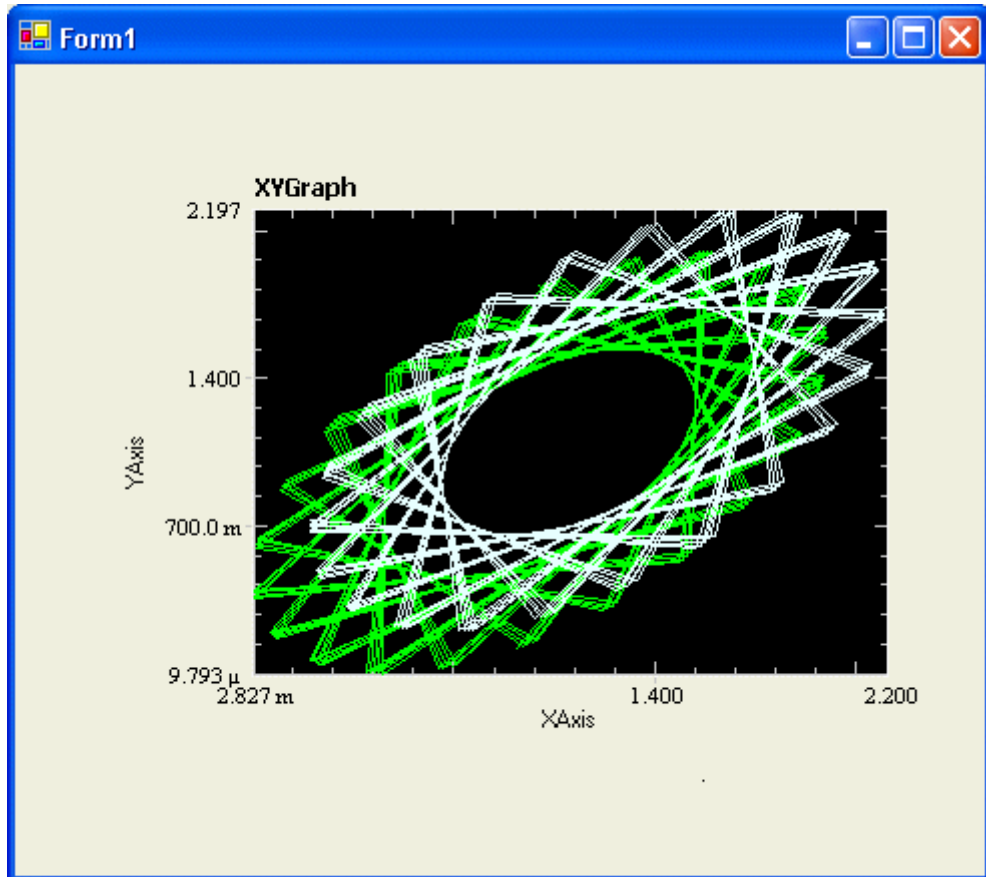

Figure 21 XY Graph
The XY Graph displays traces fed by dual-channel data (X and Y data) which can be arbitrarily or functionally related to each other. In Figure 21, there are two traces. Each trace consists of a one-dimensional array of X,Y pairs. The XY Graph also accepts two-dimensional arrays.
- 5 Run the application and double-click the button to see a graph similar to the one in Figure 21.